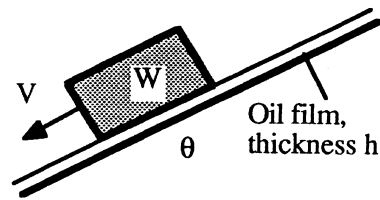

Fig. P1.45
**1.45** A block of weight  $W$  slides down an inclined plane on a thin film of oil, as in Fig. P1.45 at right. The film contact area is  $A$  and its thickness  $h$ . Assuming a linear velocity distribution in the film, derive an analytic expression for the terminal velocity  $V$  of the block.